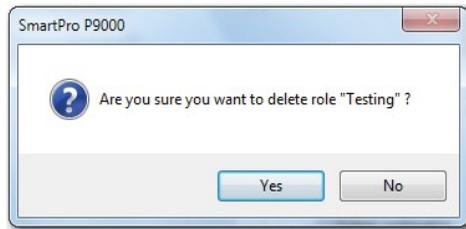

FIGURE 4-18: Confirming to delete a user role
2. From the bottom of the panel, click the Delete button. A confirmation message window opens. See Figure 4-18.